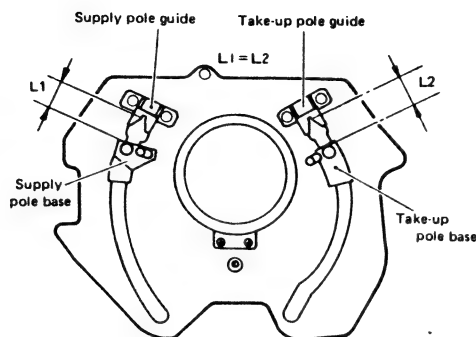

Fig. 2-18 Loading ring check
1. Take out the two screws (A) and remove the loading drive gear assembly.
4. Disengage the belt from the pulley, take out the two screws (B) and remove the motor from the loading gear assembly.
7. Turn the loading motor pulley by hand to move the loading ring slightly in the unloading direction. Check for equal spacing between the supply pole guide and supply pole base, and between the take-up pole guide and take-up pole base. See Fig. 2-18. If not equal, the loading gear ass'y mounting position is incorrect. Repeat the above step 6.